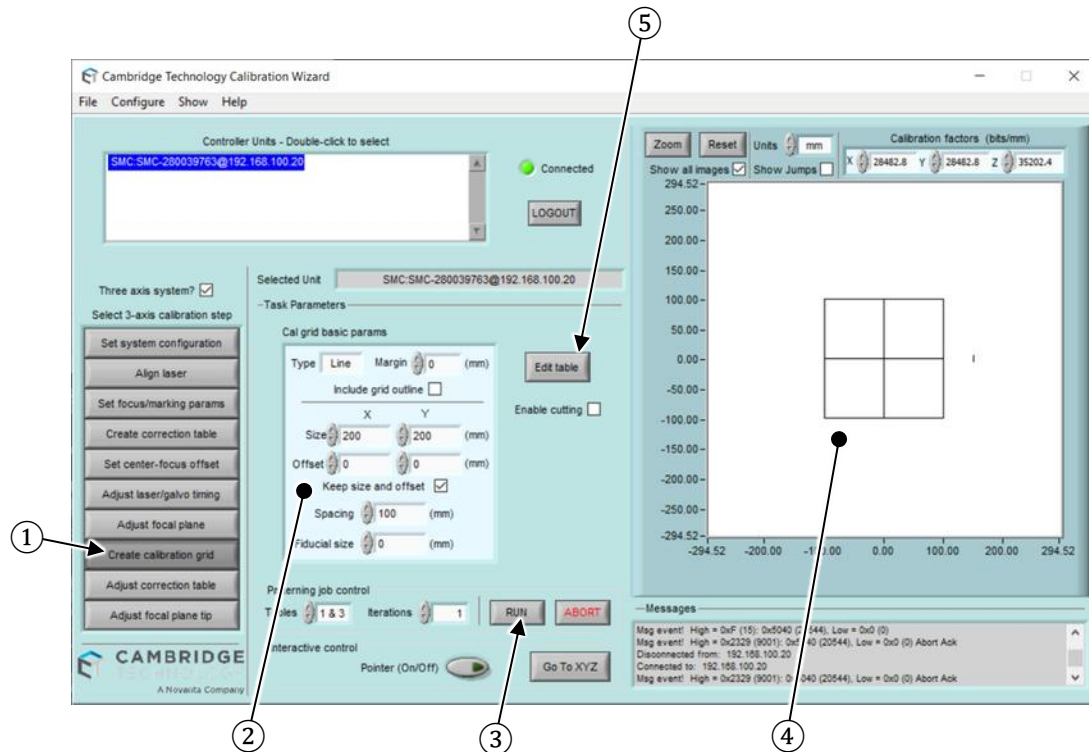

Figure 28: Adjusting the correction table
12. Referring to Figure 28 on page 74, a correction grid can be created by taking the following steps.
- (1) Click **Adjust correction table**.
- (2) Set the marking parameters, in this case for a calibrated grid **Size** of 200 × 200 mm.
- (3) Click **Run** to scan the pattern as shown in (4).
As shown by point (2) in Figure 28 on page 74, there is a wide range of calibration grids that can be defined by adjusting these values. With the correction grid scanned it needs to be measured and correction often correction factors applied. This is often an iterative task. In this example the measurement acquisition method is manually based. In precision applications this method is of limited use, and more precise measurement techniques should be used. A description at how to import measurement data into the Calibration Wizard can be found in section 4.4.4 on page 76.
- (5) Click **Edit table**.
When the software returns to the screen shown in Figure 28 on page 74 and if the field requires further corrections then re-scan the correction grid and repeat the process of scan → measure → edit correction values. If the field accuracy is acceptable the process of field correction is complete.
1. Referring briefly back to Figure 28 on page 74, click **Edit table**.